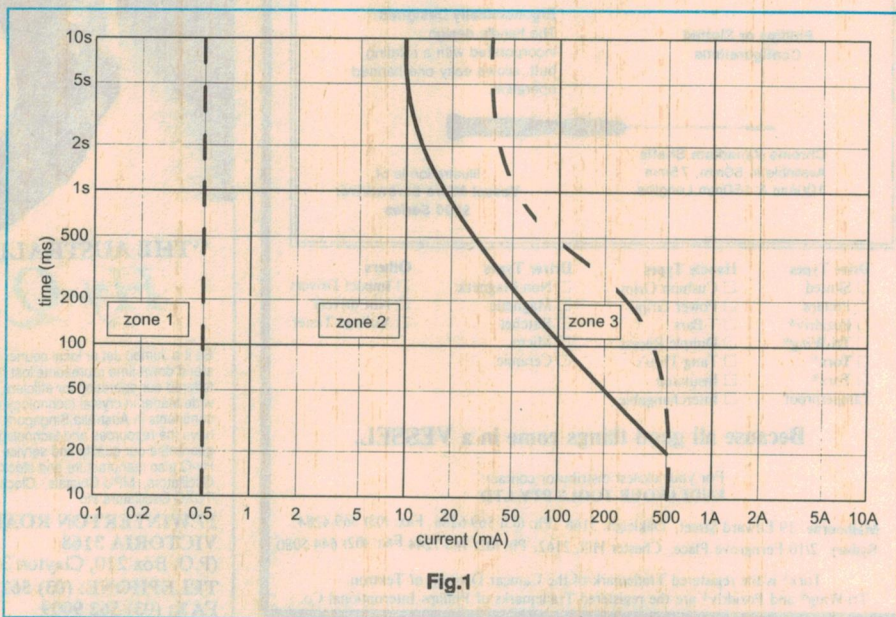

Fig.1
**Fig.1: The component layout for the PCB. To get the compact design, the various pads are fairly close together. You will need to take care when soldering not to bridge these pads. Note that the BF199 transistors used are special HF ones.**
The graph of Fig.1 shows the current/time relationship for an AC current flowing from the left hand to both feet (usual path). In zone 1, there are no reaction effects and in zone 2, there are usually no harmful physiological effects. Current values to the left of the dashed curve are unlikely to cause fibrillation.
Similar work on direct current has resulted in a set of curves like those in Fig.1, except the threshold of perception is about four times higher (2mA) and the ability to let go is less distinct (specially for high current/short duration shocks). More significantly, for a shock lasting one second or more, the current likely to cause fibrillation is around four times higher than for AC.